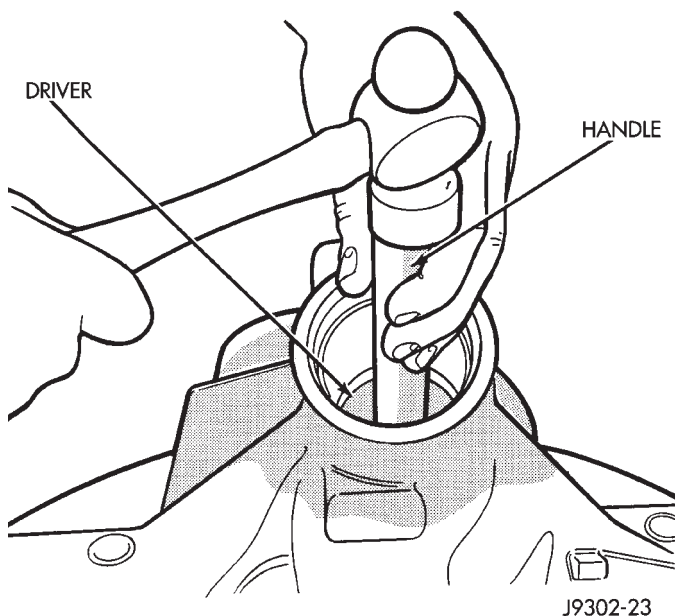

Fig. 37 Rear Bearing Cup Removal
(7) Remove the rear bearing cup from housing with Remover D-149 and Handle C-4171 (Fig. 37).